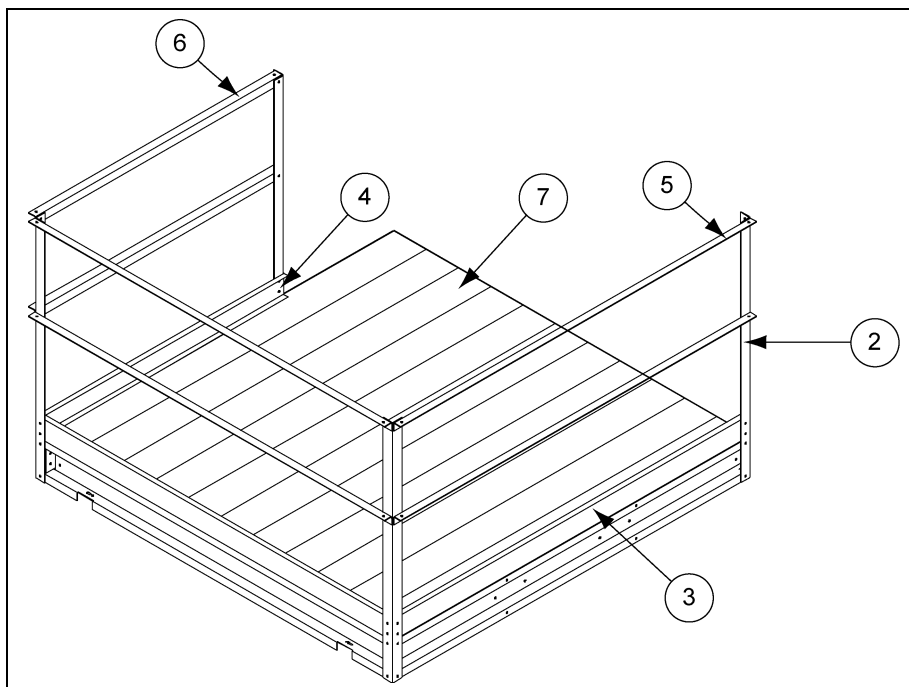

Figure 9Q
When bolting stiffener to sidewall at locations where platform supports are to be attached, use twenty five (25) 5/16" x 1-1/4" bin bolts, heads to inside. Start 12" below horizontal seam of second and third rings from top. (See *Figure 9Q*.)